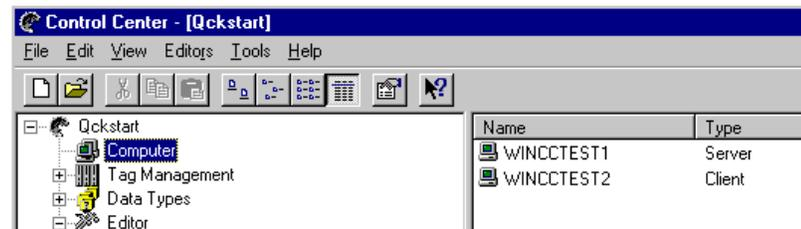

Figure 7.6 WinCC Project "QckStart"; Viewing the Server and the Client
3. Click OK. Now you can see the two computer names. Refer to Figure 7.6.